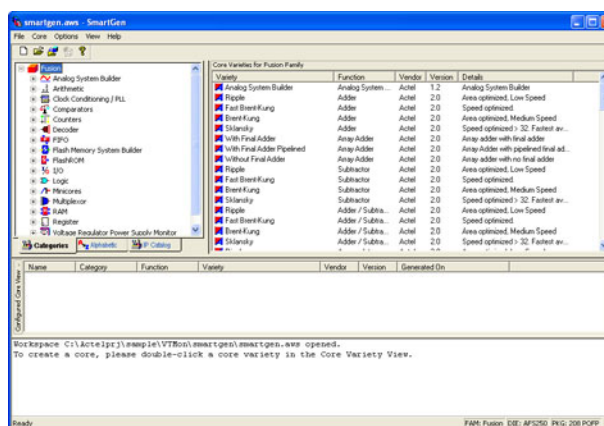

Figure 2-1 · SmartGen Window
1. Launch SmartGen by clicking the **SmartGen** button from the Libero IDE interface. This opens the SmartGen tool (Figure 2-1).